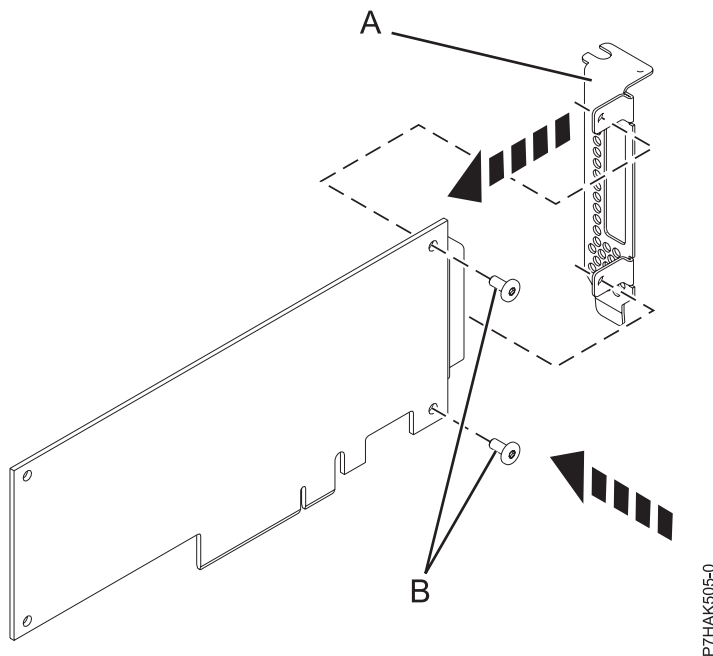

Figure 13. Attaching the low-profile tailstock to a PCI adapter
- Using a Phillips screwdriver and the two retaining screws (B), attach the tailstock (A) from the failed PCI adapter onto the new PCI adapter. See Figure 13.